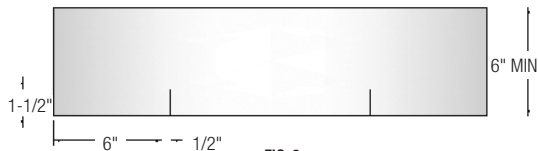

FIG. 6
- Cut 1-1/2" slits at each end of the flashing as shown below. (Fig. 6)